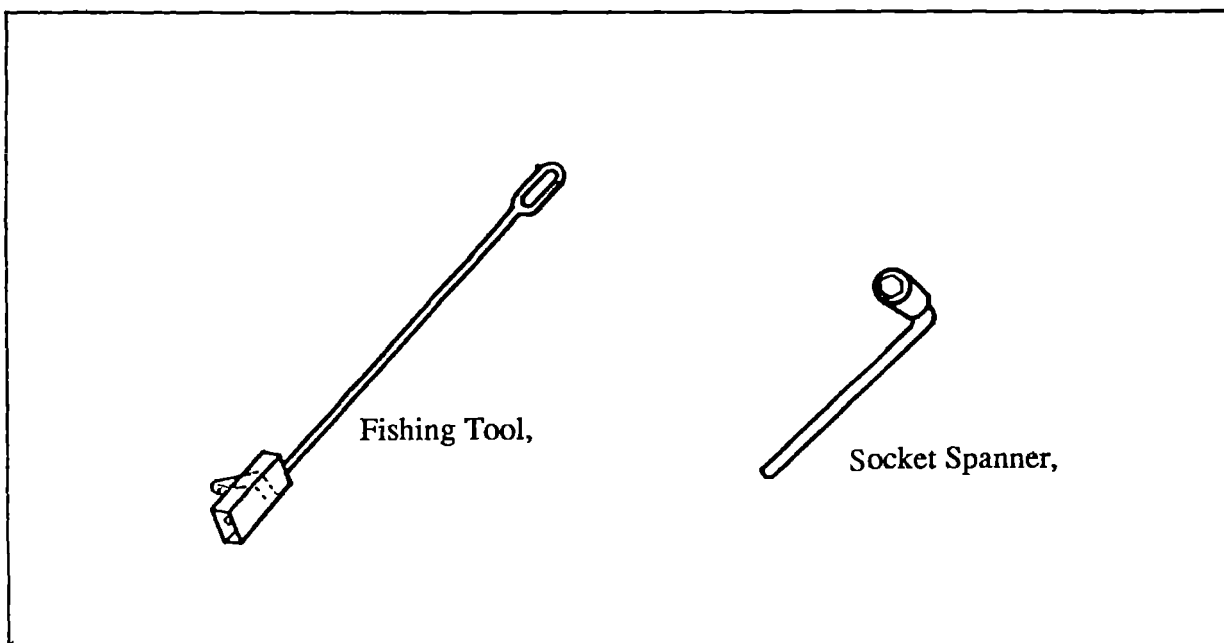

FIG. 3 - Tools used for carrying out maintenance.
b) TOOLS USED: See figure 3 below